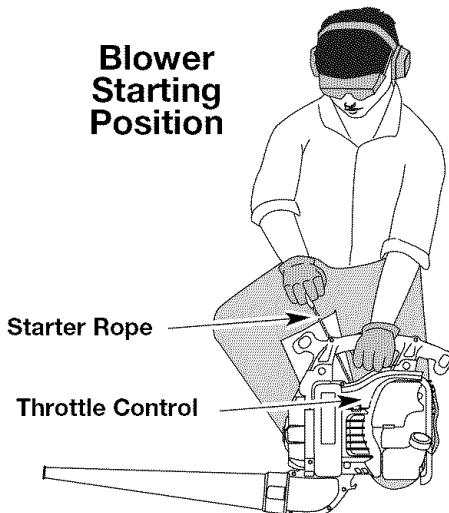
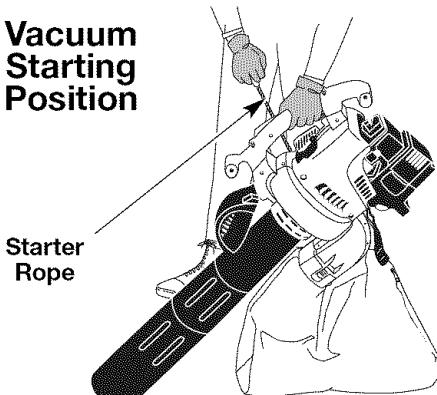

Fig. 15
Fig. 16
**WARNING:** Avoid accidental starting. Make sure you are in the starting position when pulling the starter rope (Fig. 15 or 16). To avoid serious injury, the operator and unit must be in a stable position while starting.
5. Crouch in the blower starting position (Fig. 15) or stand in the vacuum starting position (Fig. 16). Move the throttle control to the fast position (➡) (Fig. 18). Pull the starter rope out with a smooth and steady motion 5 times.